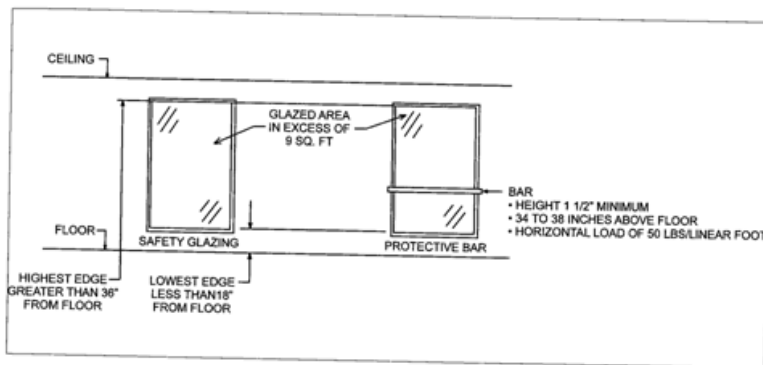

Figure 14-9
7. [Figure 14-9, Fixed Glass Adjacent to Walking Surface, 2003 IRC Performing Residential Building Inspections, this handout pg. 3 of 5.](#)